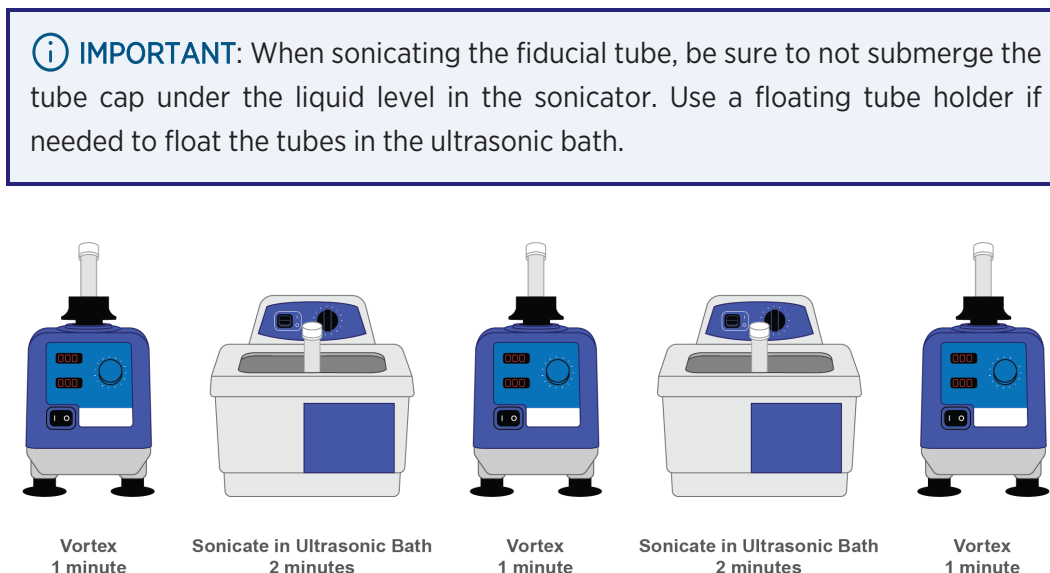

Figure 77: Prepare Fiducials
1. Prepare fiducials for use following the below steps (Figure 77):